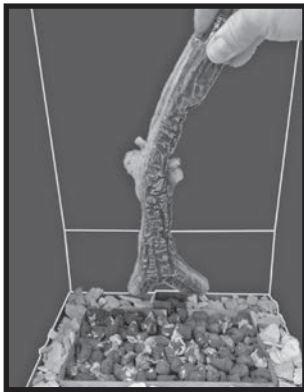

Figure 43: Log 1.
1. Position rear log at the back of the firebox (Figure 43).